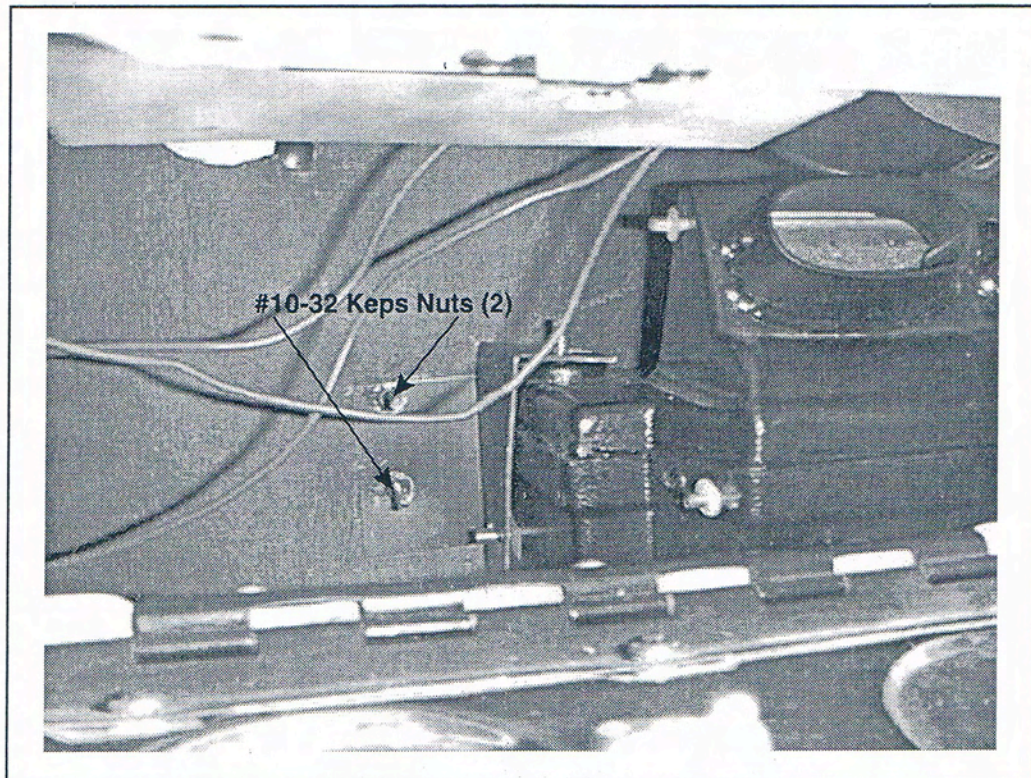

FIGURE 3
13. Drill two (2) 1/4" diameter holes near the center location of firewall. **CAUTION:** Hole may be close to engine distributor cap, removal of distributor cap may be necessary. (FIGURE 3)